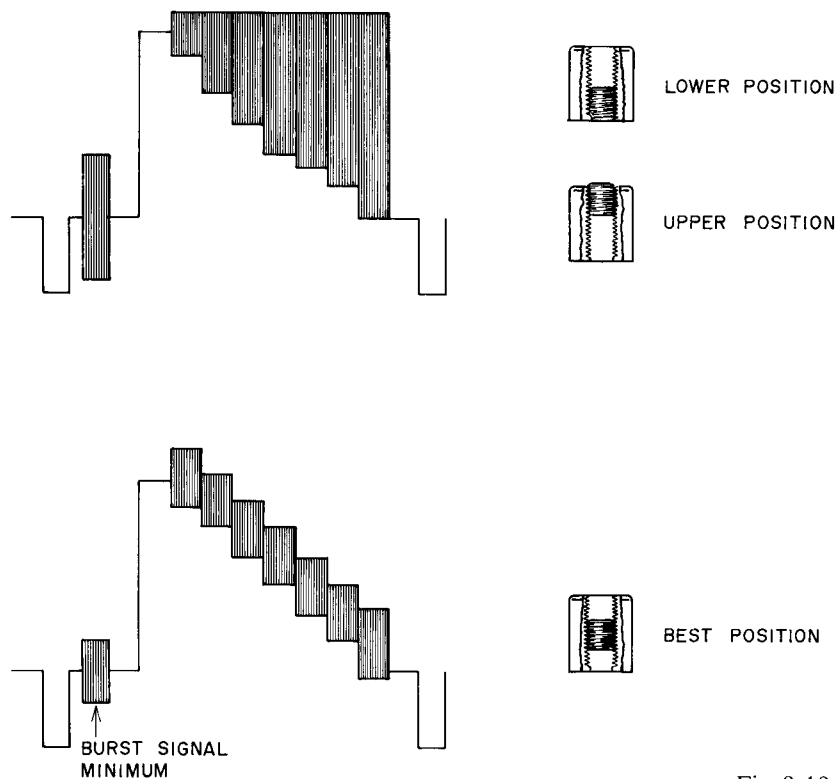

Fig. 8-10
- Turn the TANK COIL (L4) counter-clockwise from Lower end (core moves upwards) so that the level of the burst signal becomes minimum as shown in Fig. 8-10.